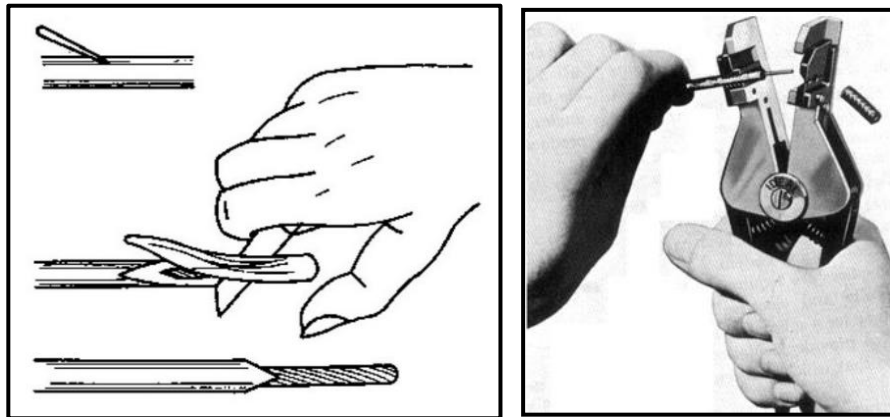

Fig.1.13: Removing the cable insulation with electrician knife and wire stripper
1. *Skinning (or insulation removing).* In this process the insulation is removed from the end of cable up to required length with sharp knife or wire stripper (sometimes called skinner). Electrician pliers should not be used for this purpose. Insulation is removed with knife just like sharpening the lead pencil. See fig.1.13